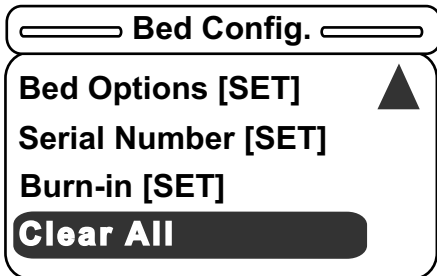

Figure 61 – Bed Config. menu
34. To quickly clear all of the Bed Configuration items that you entered, select the **Clear All** item located at the bottom of the Bed Configuration menu (Figure 61).